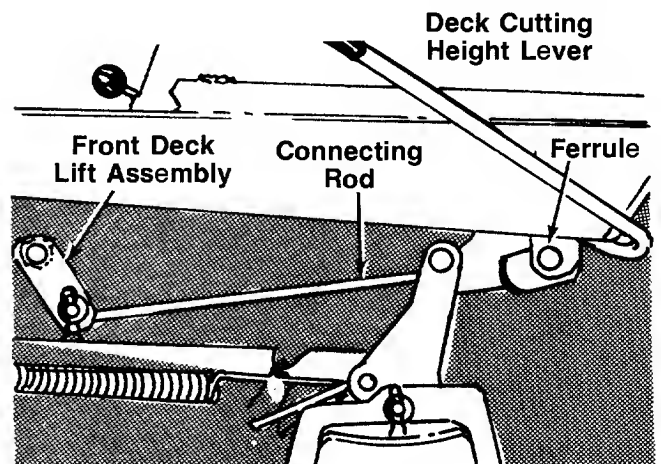

FIGURE 28.
2. Remove the hairpin cotter and flat washer which hold the deck lift connecting rod to the front deck lift assembly. See figure 28.
3. Remove the connecting rod from the deck lift assembly and thread it in or out of the ferrule as necessary. See figure 28. Replace the rod.